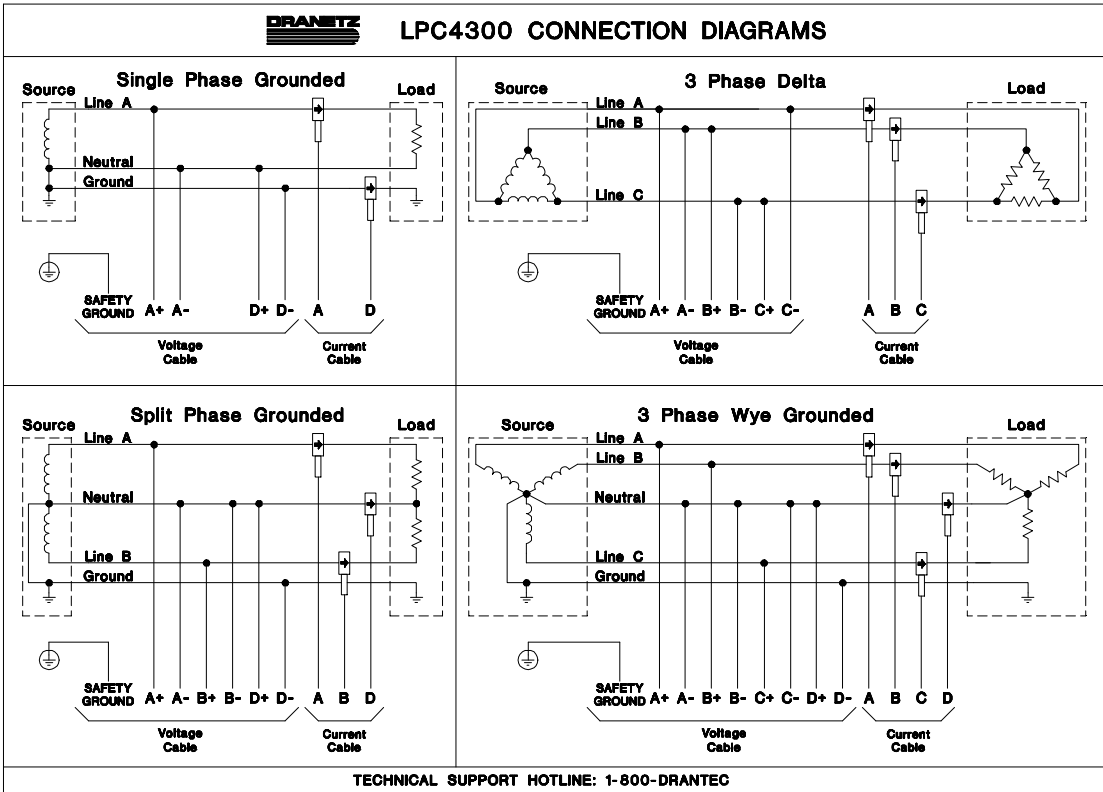

Figure 6. LPC4300 Connection Diagram (inside lid of case).
- 7. Connect the voltage and current measurement cables (if applicable) to the circuit to be monitored. Use the probes and plug-on clips provided with the Power Platform 4300. Refer to the connection diagrams inside the lid of the case (Figure 6). See the PP4300 Operator's Manual for operating instructions.